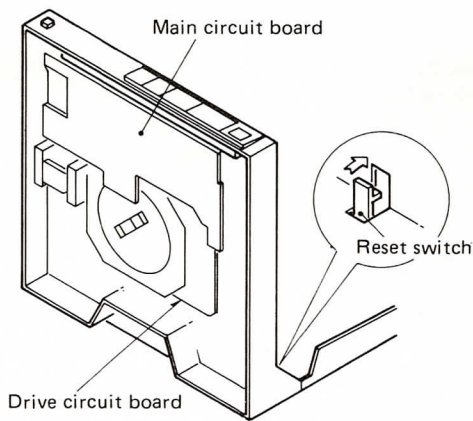

Fig. 28
2. How to raise the unit (Fig. 28)